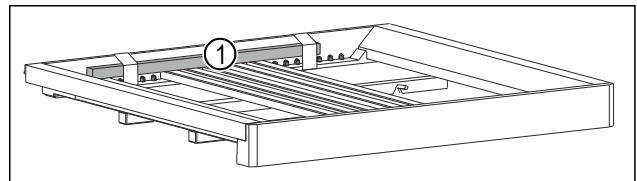

Fig. 5 \*
- ▶ Remove the wooden stick Fig. 5 [1].\*